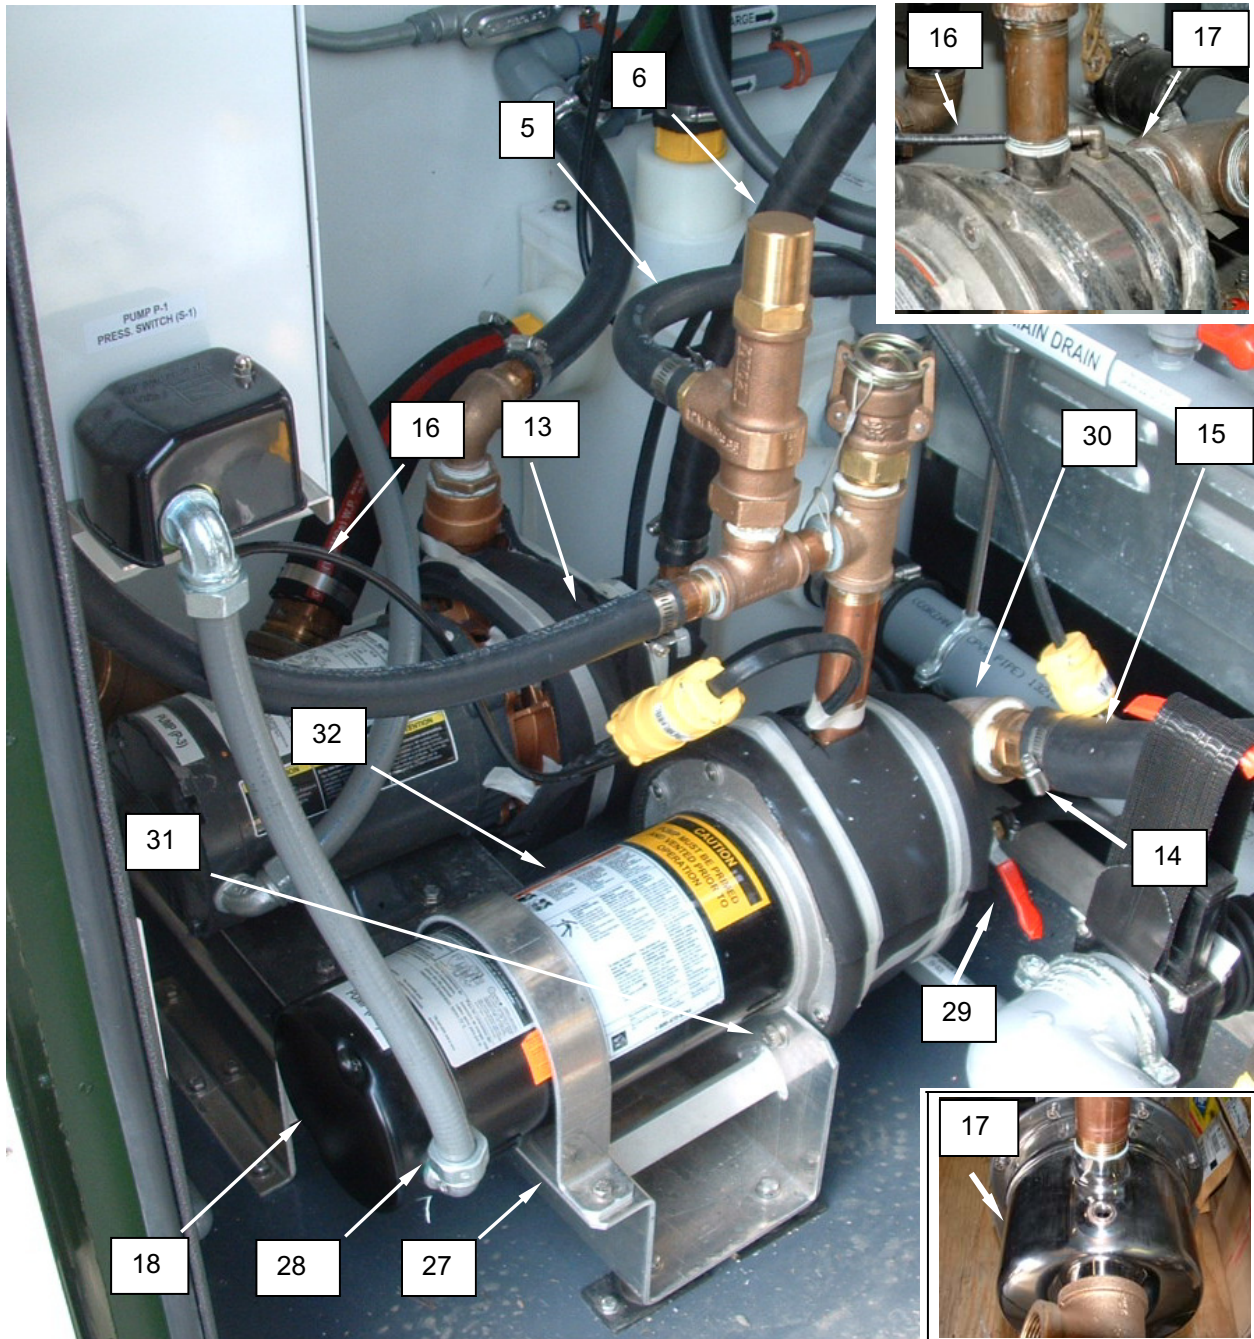

Figure 16. Replace the P-1 Pump Assembly.
3. Remove screws retaining pump end cover (**Figure 16, Item 18**) and remove end cover.
5. Remove conduit locknut, and remove conduit (**Figure 16, Item 28**) from pump.
6. Loosen hose clamp retaining discharge hose (**Figure 16, Item 13**) and remove hose.
7. Loosen hose clamp retaining pressure relief valve hose (**Figure 16, Item 5**), and remove hose.
8. Loosen hose clamp retaining drain hose (**Figure 16, Item 14**) and remove hose.
9. Loosen hose clamp retaining pump suction hose (**Figure 16, Item 16**) and remove hose.
10. Loosen compression nut retaining pressure switch tubing (**Figure 16, Item 16**) to pump casing (**Figure 16, Item 17**) and remove tubing.
11. Mark alignment of discharge fittings, including pressure relief valve (**Figure 16, Item 6**), and use a pipe wrench to unscrew fittings as an assembly.
12. Mark alignment of pump drain fittings (**Figure 16, Item 29**) and use a pipe wrench to unscrew fittings from pump housing as an assembly.
13. Mark alignment of pump suction fittings (**Figure 16, Item 30**) and use a pipe wrench to unscrew fittings from pump housing as an assembly.
14. Remove nuts and bolts retaining motor mounting strap (**Figure 16, Item 27**) and remove strap.
15. Remove machine screws (**Figure 16, Item 31**) retaining pump assembly (**Figure 16, Item 32**) to mount.
16. Remove pump assembly (**Figure 16, Item 32**).
17. Install replacement pump assembly (**Figure 16, Item 32**).
19. Install machine screws (**Figure 16, Item 31**) to retain pump assembly (**Figure 16, Item 32**) to mount.
20. Install mounting strap (**Figure 16, Item 27**) and retain with nuts and bolts.
21. Apply pipe sealant to threads of suction fittings (**Figure 16, Item 30**) and install as an assembly. Ensure fittings are aligned correctly.
22. Apply pipe sealant to threads of pump drain fittings (**Figure 16, Item 29**) and install as an assembly. Ensure fittings are aligned correctly.
23. Apply pipe sealant to threads of discharge fittings, including pressure relief valve (**Figure 16, Item 6**), and install as an assembly. Ensure fittings are aligned correctly.
24. Install pressure switch tubing (**Figure 16, Item 16**) and retain with compression nut.
25. Install suction hose (**Figure 16, Item 15**) and retain with hose clamp.
26. Install pump drain hose (**Figure 16, Item 14**) and retain with hose clamp.
27. Install pump pressure relief valve hose (**Figure 16, Item 5**) and retain with hose clamp.
28. Install pump discharge hose (**Figure 16, Item 13**) and retain with hose clamp.
29. Remove pump end cover (**Figure 16, Item 18**) from replacement motor.
30. Install pump motor conduit (**Figure 16, Item 28**) onto replacement motor and retain with locknut.
32. Install pump end cover (**Figure 16, Item 18**) and retain with screws.